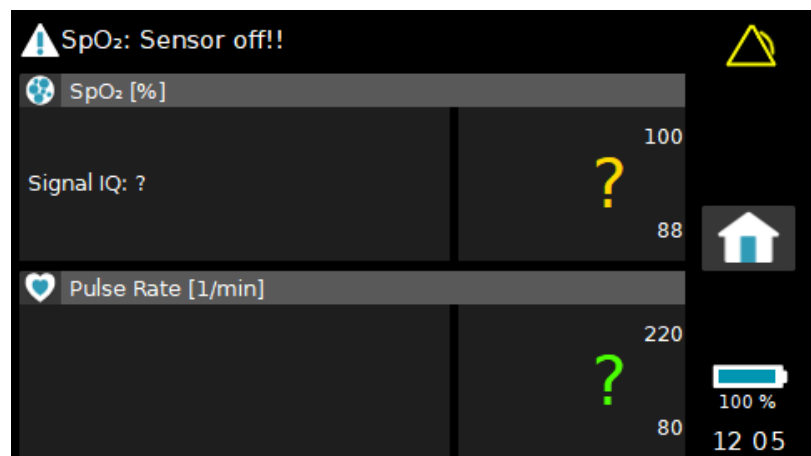

Fig. 33 Information on the Monitor Screen during a Technical Alarm
- the monitor screen outputs the following visual information, as shown in Fig. 33:
If vital signs cannot be measured due to a technical alarm, then the values for that parameter are replaced by a question mark symbol, as shown in Fig. 33.